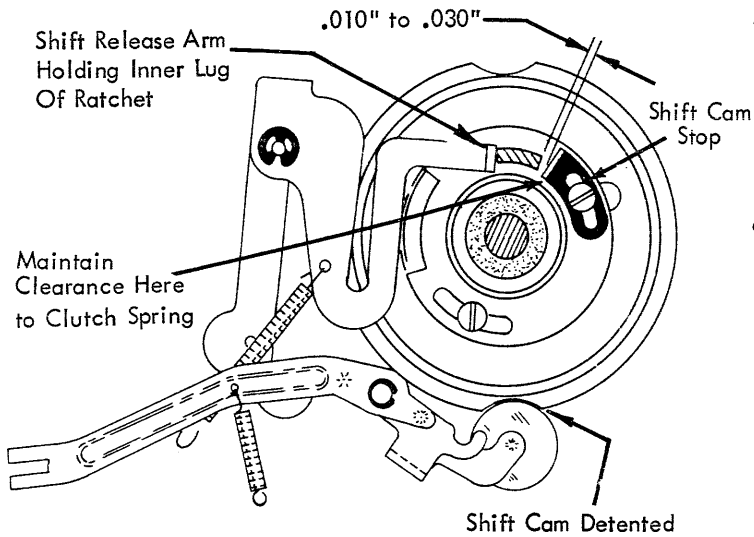

FIGURE 30. Shift Cam Stop Adjustment
3. Shift Cam Stop - Adjust the stop so that the shift clutch ratchet has $.010''$ to $.030''$ rotary motion between the shift cam stop and the shift release arm with the mechanism at rest (Fig. 30).